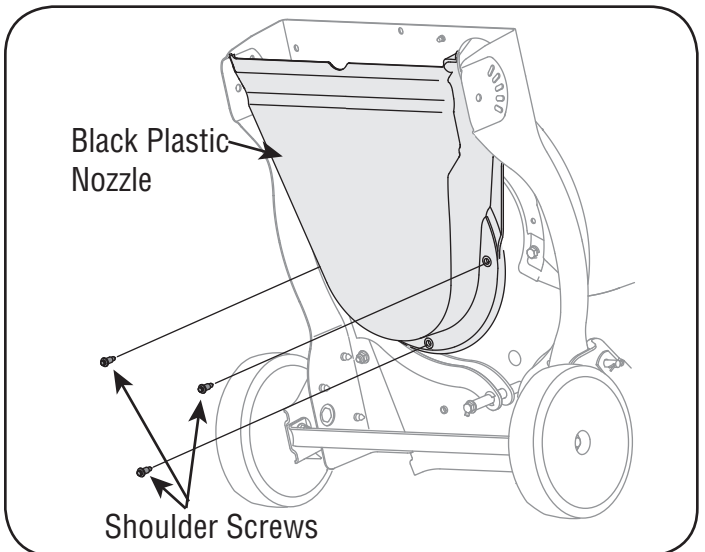

Figure 25
7. Carefully tilt and support the unit up to provide access underneath to the nozzle mounting hardware and impeller. Remove the three shoulder bolts securing the black plastic lower flail housing to the lower housing. Refer to Figure 25.